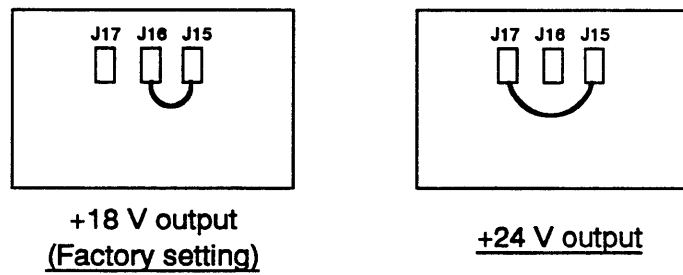

Fig. 5-3 Interface Board (05P0354)
*Note 1: The +18 V or +24 V can be supplied by changing the plug connection (J15/J16/J17) on the Interface Board in the lower unit as shown in Fig. 5-3. Note that the +24 V can not be used when the ground line (signal ground) of the other radio is connected to the chassis, since the ground line of TB9 #10 on the Interface Board is directly connected to the battery.*